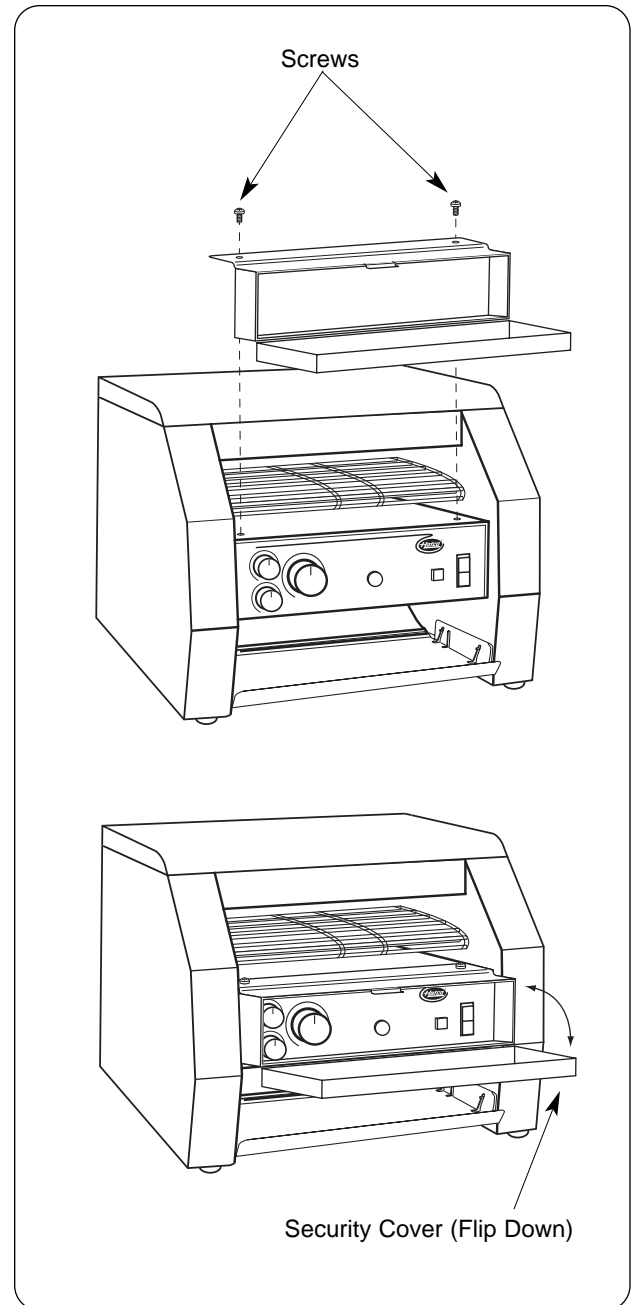

Figure 15. Security Cover
2. Remove screws. See Figure 15.